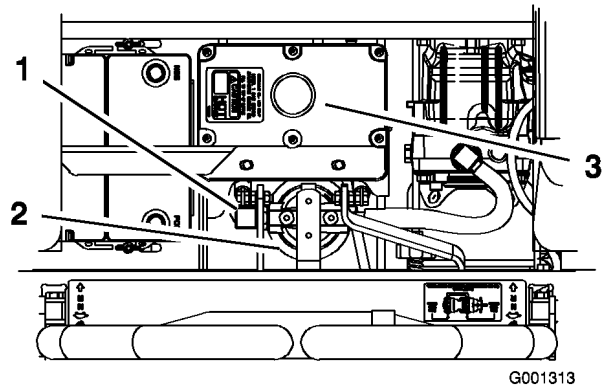

Figure 67
4. Remove the righthand hydraulic line that comes into the adapter (Figure 67).
6. Install the righthand hydraulic line to the adapter (Figure 67).